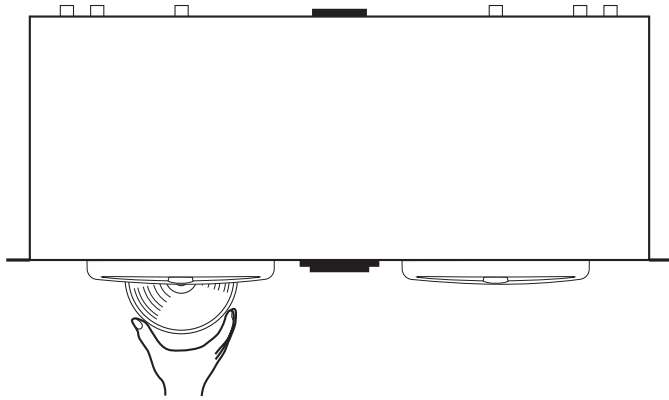
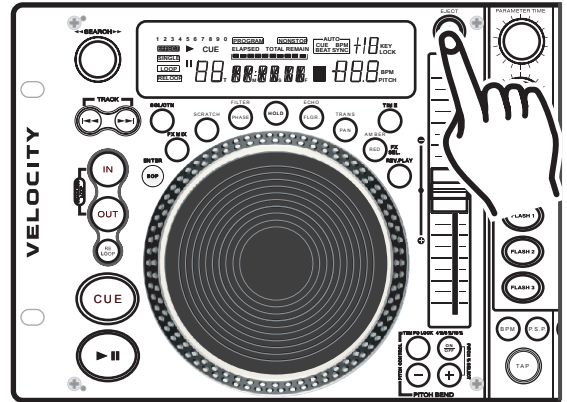

Figure 7: When inserting a disc always hold the disc by its edges and load the disc label side up.
Figure 8: Hold down the Eject Button to remove a disc.
The Velocity™ can only play regular 5 inch CDs. 3 inch, odd shaped, and oval CDs are not compatible. When loading a CD into the transport drive, always hold the disc by its edge (see Figure 7). Load the disc label side up and slide it in the disc slot. Never touch the signal surface (the glossy side). To remove a disc from the slot press the *EJECT BUTTON* (18), see Figure 8.